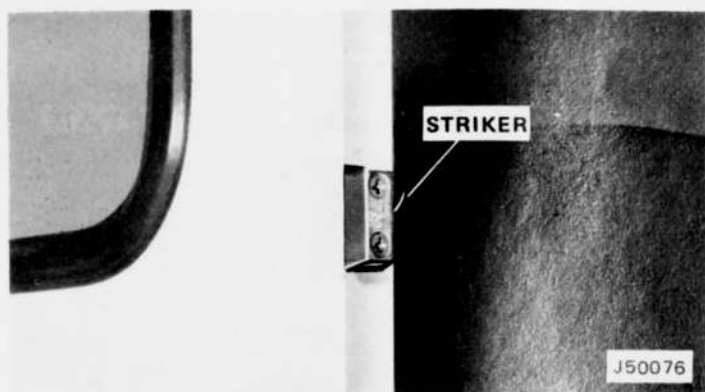

Fig. 2-8 Door Striker Installed
(1) Attach striker to cab rear panel with flat-head screws and locknuts (fig. 2-8).